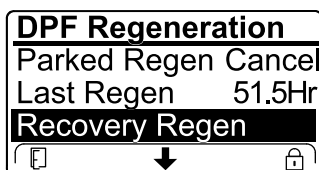

Figure 63
- If the engine computer has not requested a recovery regeneration and you scroll down to the RECOVERY REGEN option, the recovery regeneration locks and the lock icon (Figure 63) appears in the lower right corner of the InfoCenter.